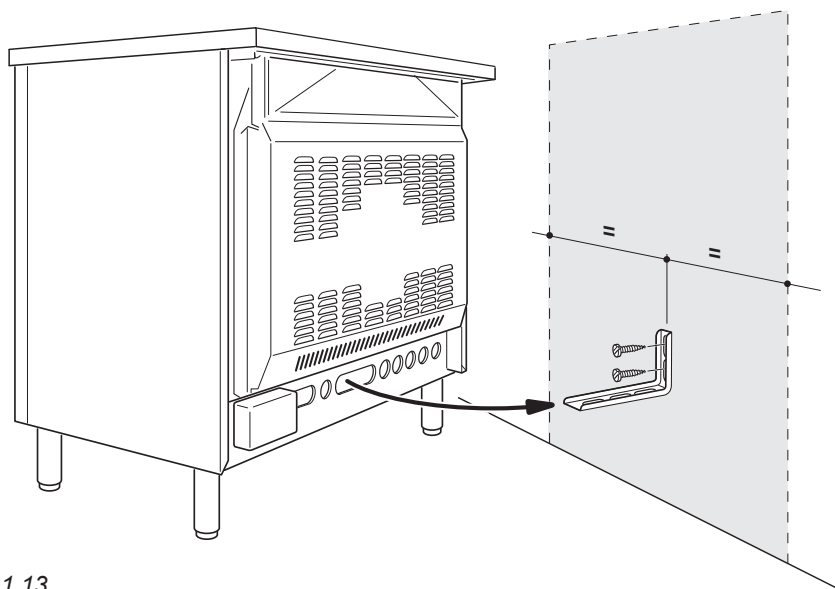

Fig. 1.13
1. After you have located where the cooker is to be positioned, mark on the wall the place where the two screws of the anti-tilt bracket have to be fitted. Please follow the indications given in fig. 1.13.
4. Move the cooker to the wall and adjust the height of the anti-tilt bracket so that it can engage in the slot on the cooker's back, as shown in fig. 1.13.